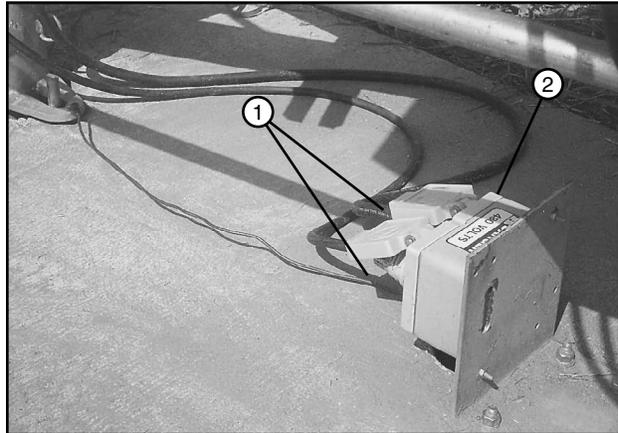

Figure 48-1 1. Power and Pump Control Plugs
5. With the disconnect in the OFF position, unplug the power plug and then unplug the pump control plug from the receptacle. See Figure 48-1.